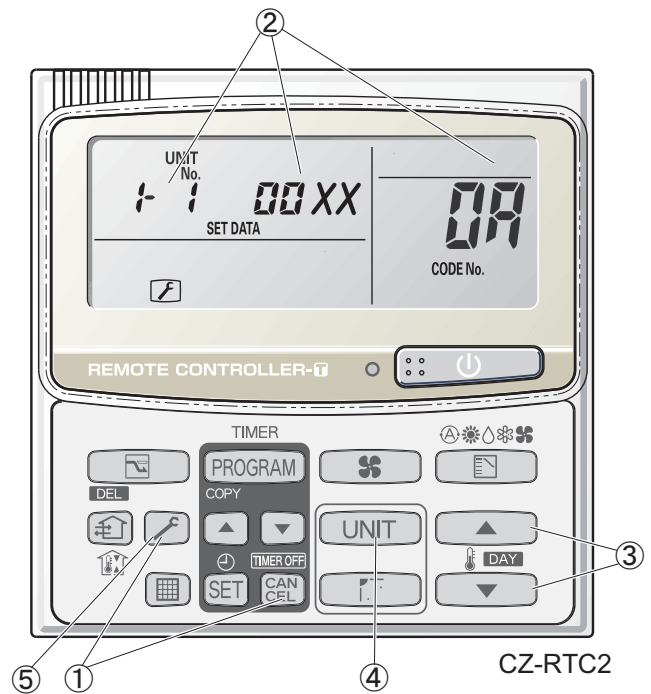

Fig. 7-9
- ① Press and hold the  and  buttons simultaneously for 4 seconds or longer.
- ② The unit No. "X-X" (main unit No.), item code "XX" (sensor address), and servicing monitor "00XX" (sensor temperature) are displayed on the remote controller LCD display. (See Fig. 7-9 at right.)
- ③ Press the temperature setting  /  buttons and select the item code to the address of the sensor to monitor.